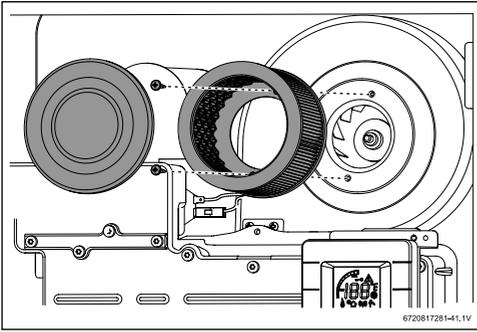

Fig. 38 Replace air filter
- Verify the air filter is clean and undamaged. The air filter is attached to the fan assembly, see fig. 38.